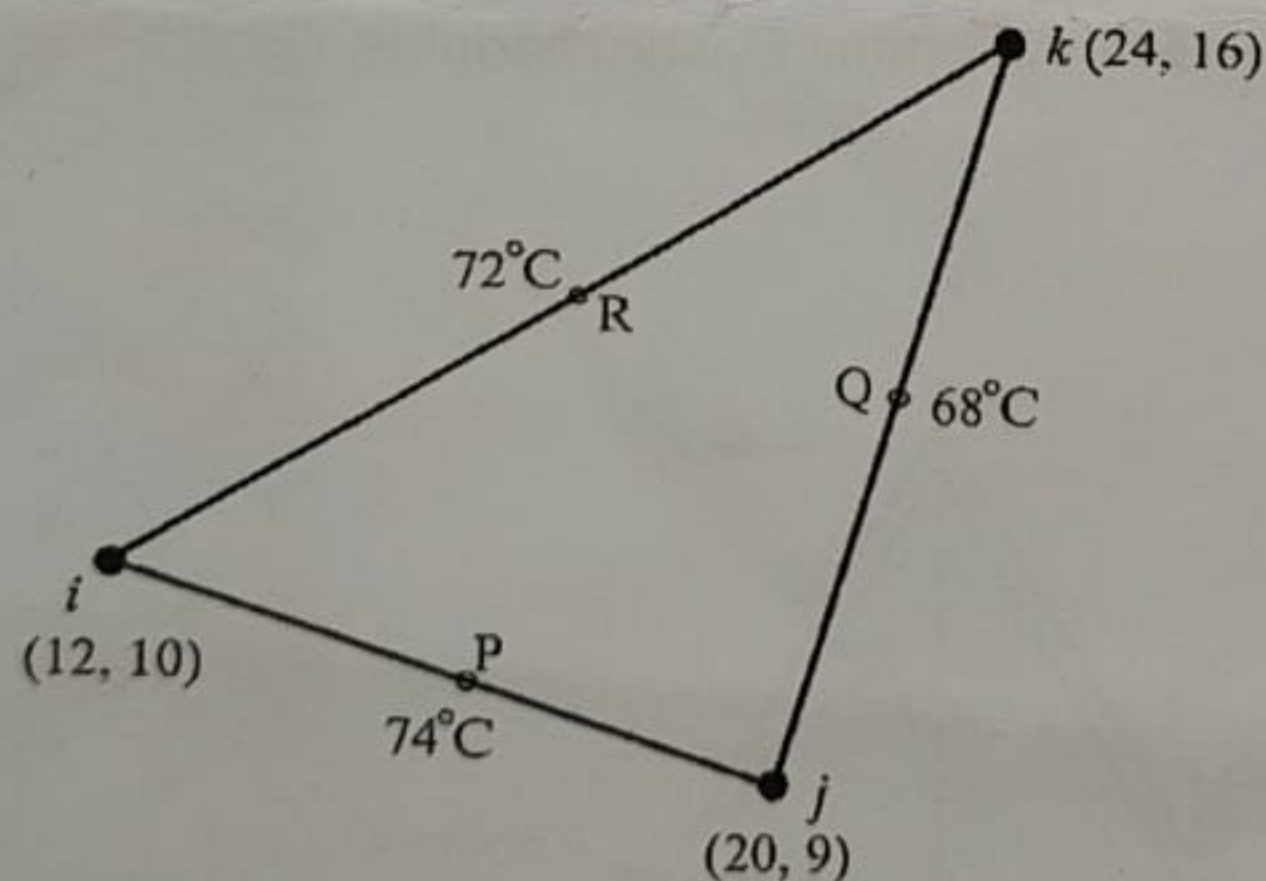

Figure 3
- 7.a) (i) Consider a linear triangular element ijk with its cartesian coordinates, as shown in the figure 3. The temperature values at the midpoints (P, Q, R) of the element edges (ij, jk, ik) are given in the figure. Determine the nodal temperatures using appropriate shape functions of the element. [10]